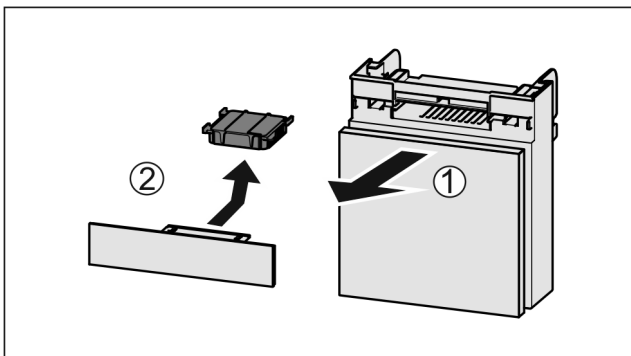

Fig. 125
- ▶ Pull out the compartment Fig. 125 (1).
- ▶ Remove the carbon filter Fig. 125 (2).